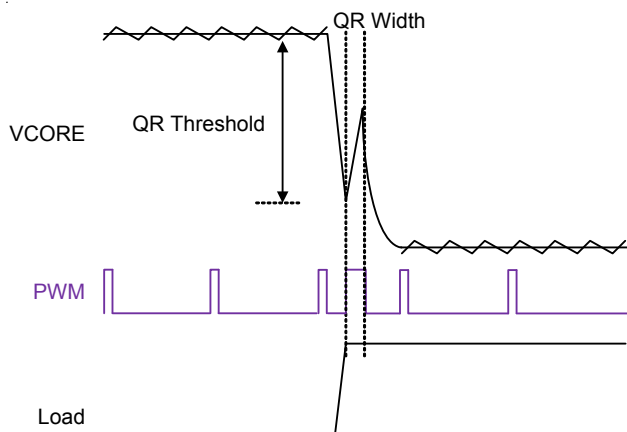
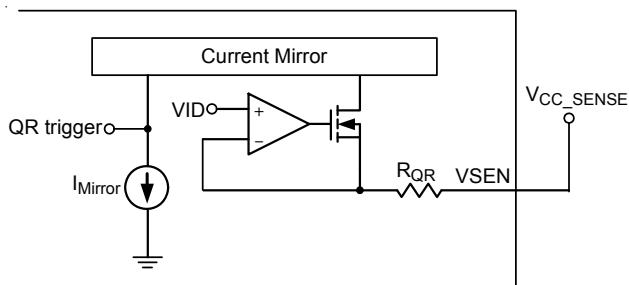

Figure 13. Quick Response Mechanism
Figure 14. Simplified QR Trigger Schematic
When the transient load step-up becomes quite large, it is difficult for loop response to meet the energy transfer. Hence, that output voltage generate undershoot to fail specification. The RT8171C has Quick Response (QR) mechanism being able to help improve this issue. It adopts a nonlinear control mechanism which can enlarge the on time of PWM signal at instantaneous step-up transient load to restrain the output voltage drooping, Figure 13 shows the QR behavior.
The output voltage signal behavior needs to be detected so that QR mechanism can be triggered. The output voltage signal is via a remote sense line to connect at VSEN pin that is shown in Figure 14. The QR mechanism needs to set QR width and QR threshold. Both definitions are shown in Figure 13. A proper QR mechanism set can meet different applications. The SET2 pin is a multi-function pin which can set QR threshold, QR width and ICCMAX.